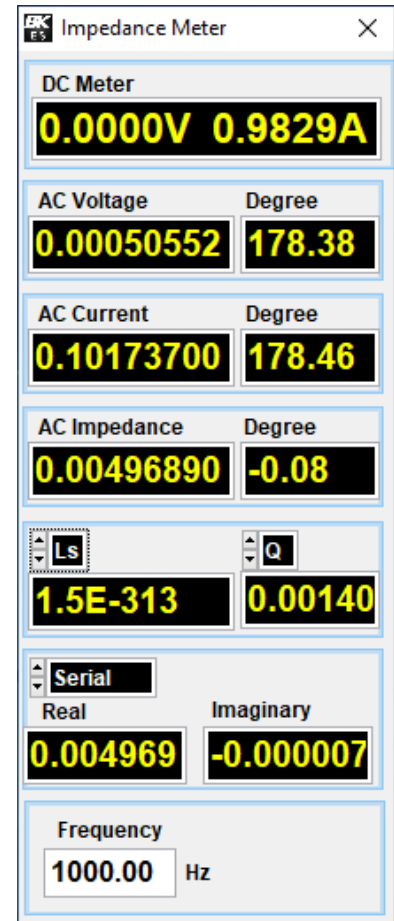

Figure 6.6 Impedance Meter
- Displays the measurements that are currently being acquired by the BA8100. See **Figure 6.6**.